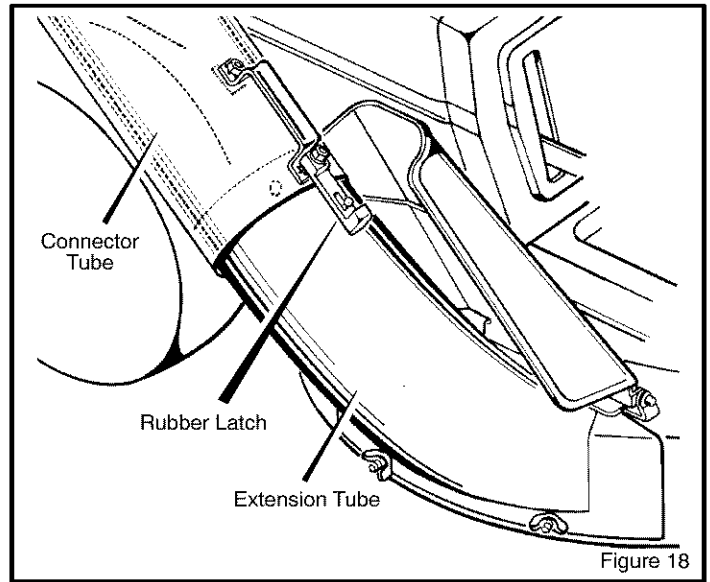

Figure 18
2. Move the shift lever to the neutral (N) position.
5. Disconnect the **rubber latch** from the **extension tube** (Figure 18).